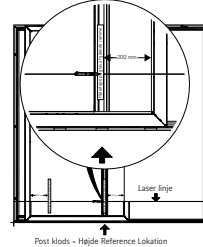

Figure 15: Laser position 2 – mark line on tape at laser height
20. Adjust each shim in height by sliding the sash back and forth so one of the tape pieces is directly above the shim. Repeat for all shims. The laser height must match the line on the tape (figure 15).